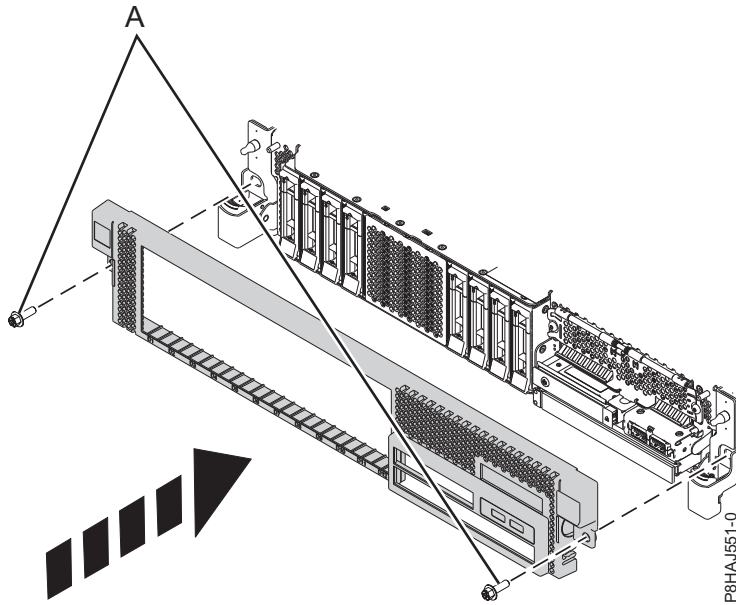

Figure 19. Installing the front cover
3. Close the release latches by pushing in the direction shown in Figure 19 on page 37. The cover snaps into place and has an indentation where you can hold onto it more easily.
4. Replace the shipping screws (A).